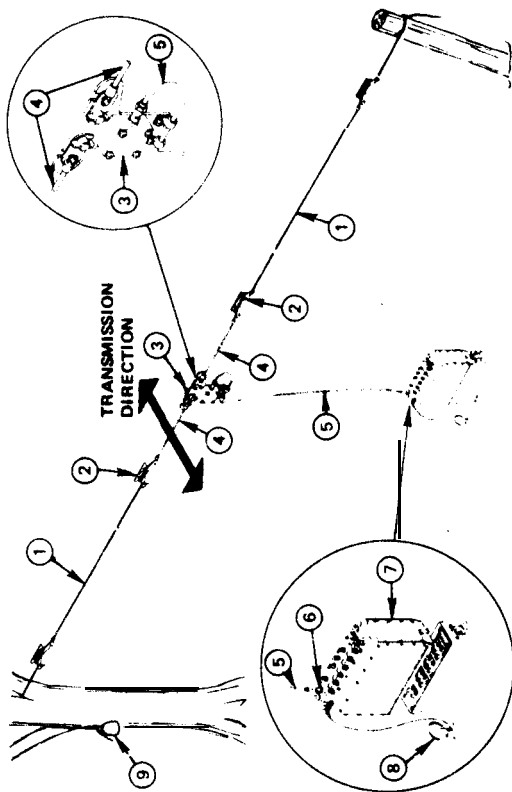

Figure 2-3. Doublet Antenna AS-2975/PRC-70.
a. *Installation of Doublet Antenna.* Figure 2-3 shows the equipment setup for this configuration. The halyard assemblies may be attached to any suitable structure, manmade or natural, that will provide maximum height, correct antenna length, and antenna orientation at a right angle to the direction of desired transmission.
(4) Connect the two wire rope assemblies to the balun assembly as shown in figure 2-3.
(5) Unwind the desired antenna wire length as determined by (2) above on both wire rope assemblies.
(6) Unwind the nylon rope from the two halyard assemblies.
(7) Connect the end of the rope of the halyard assemblies to the reel of the two-wire rope assemblies.
(8) Secure the halyard assemblies to the